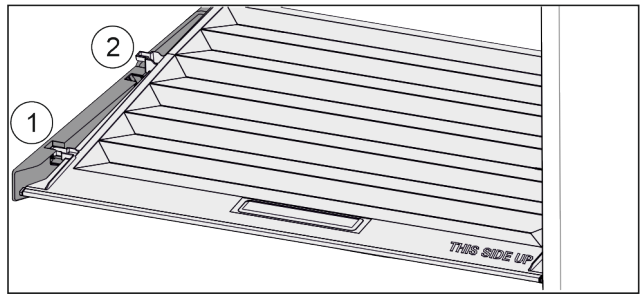

Fig. 72
- ▶ Pull the lid up at the front to the opening in the retaining parts Fig. 72 (1).
- ▶ Lift from the back and pull it up and out Fig. 72 (2).